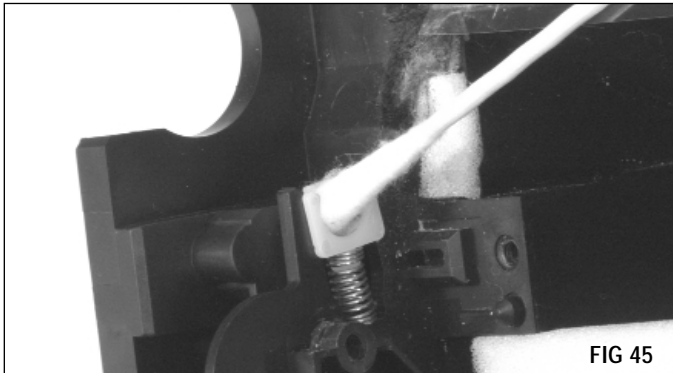

FIG 45
3. Clean the PCR saddles. Clean toner residue from the saddles with a Lint-Free Swab (LFSWAB) or Cotton Swab (QTIP) dampened with 91-99% isopropyl alcohol (FIG 45).